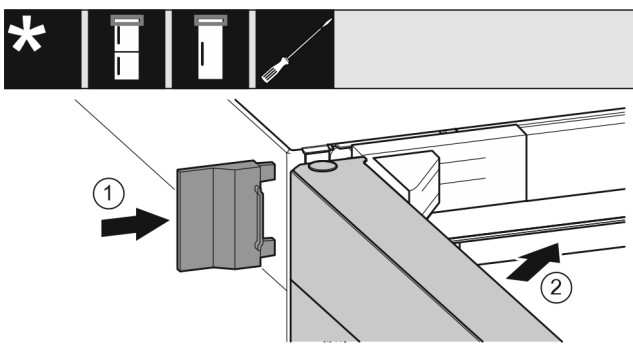

Fig. 21
▶ Slide on the outer cover. *Fig. 21 (1)*
▶ Close the upper door. *Fig. 21 (2)*